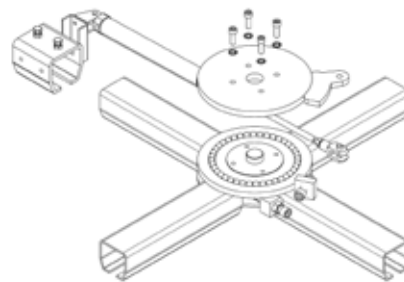

Fig. 65
- Annually, check the stoppers of the turn table and adjust if necessary. (fig. 65)